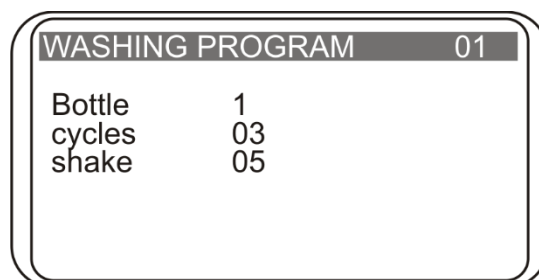

Fig. 7. Display during operation
- 4.15. During operation, display shows program number, currently used bottle number and the number of cycles left (fig. 7). If the current action has time tracking (soaking or shaking), then the elapsed time is displayed.